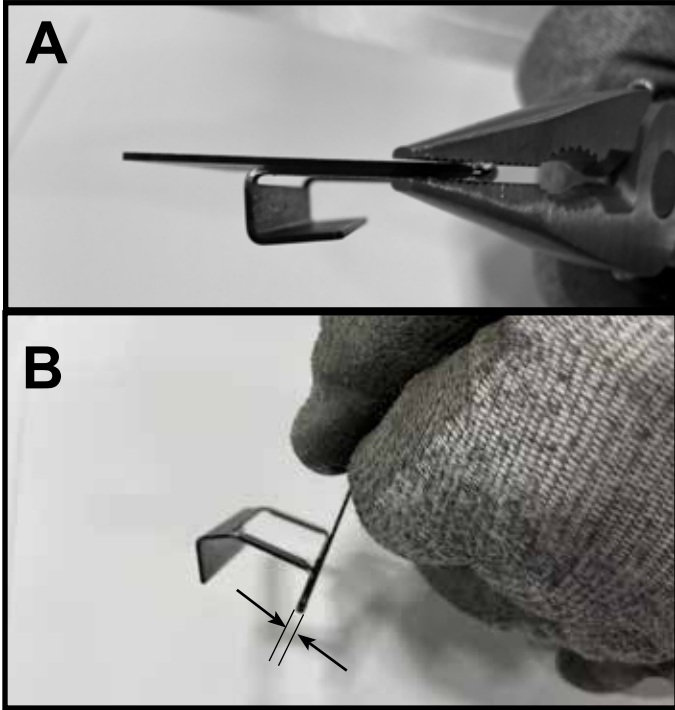

Figure 7 Flattening of Side Refractory Brackets - All Models
- When installing retaining brackets on the side panels, the first bend should be flattened with a pliers so that the bracket does not create a space between the refractory panel and the firebox. Figures 7.A and 7.B show this flattening process.
2. Use a pliers to close the gap on the initial hand bend as shown in Figure 7.